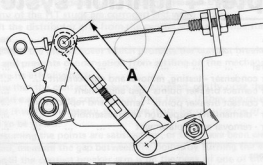

Fig. 3.45. Adjustable rod on carburettor throttle lever, (if fitted). Dimension 'A' should be 3 in (76 mm) . (Sec. 14)
- 7 If the carburettor is fitted with an adjustable control rod set it to the dimension shown in Fig. 3.45.